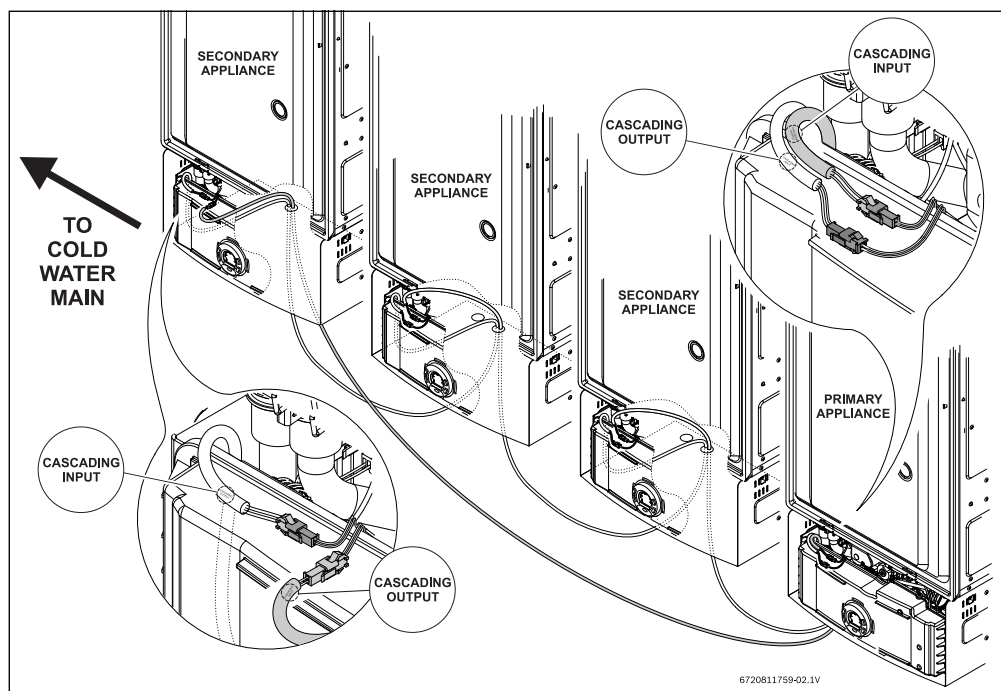
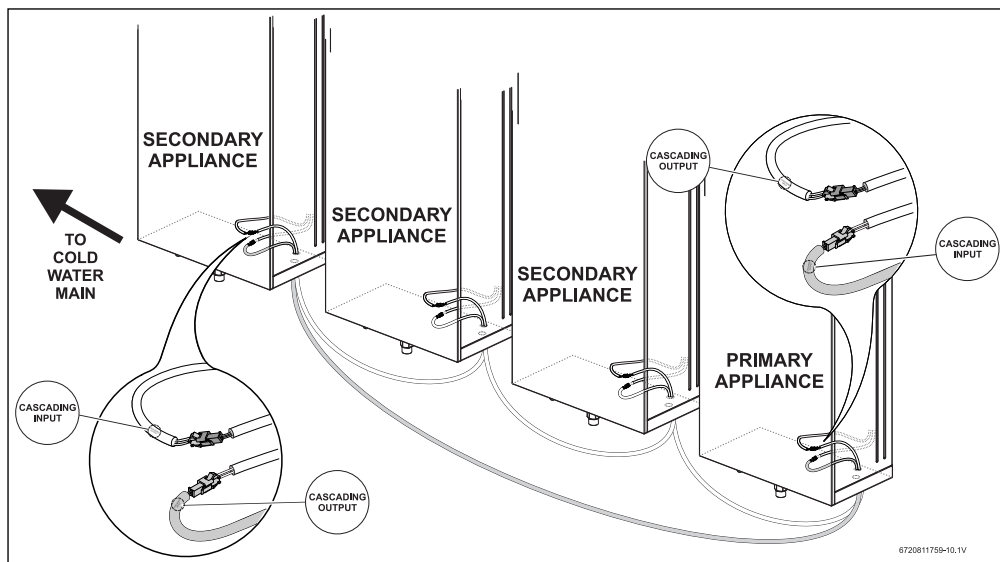

Fig. 9 Example of installation for: RTG 199HE, RTG 199ME
Fig. 10 Example of installation for: RTG-K-199N/X1, RTG-K-160N/X1, RTG-K-199N/X2 and RTG-K-160N/X2
- Connect units in a row from the first to the last unit and then connect the last unit to the first one to close the ring (fig. 9 and fig. 10).